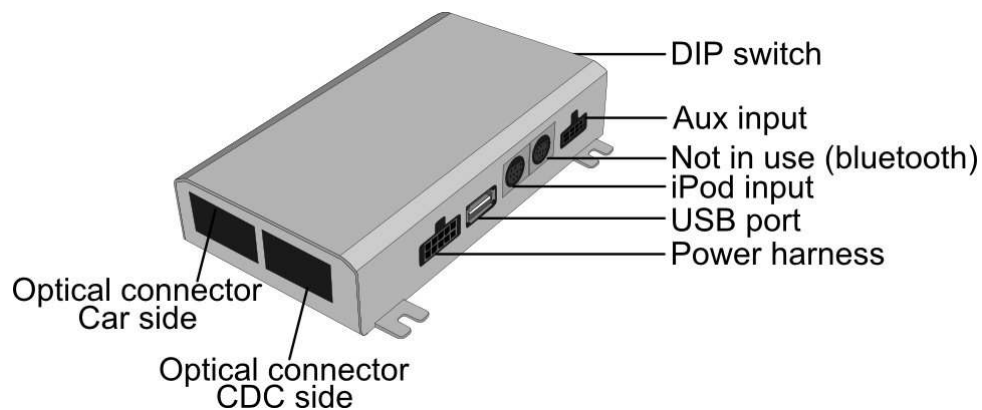

Fig 11: Gateway 500 connections
7. When all cables have been run to the correct location, plug cables into Gateway 500 – see Fig 11.